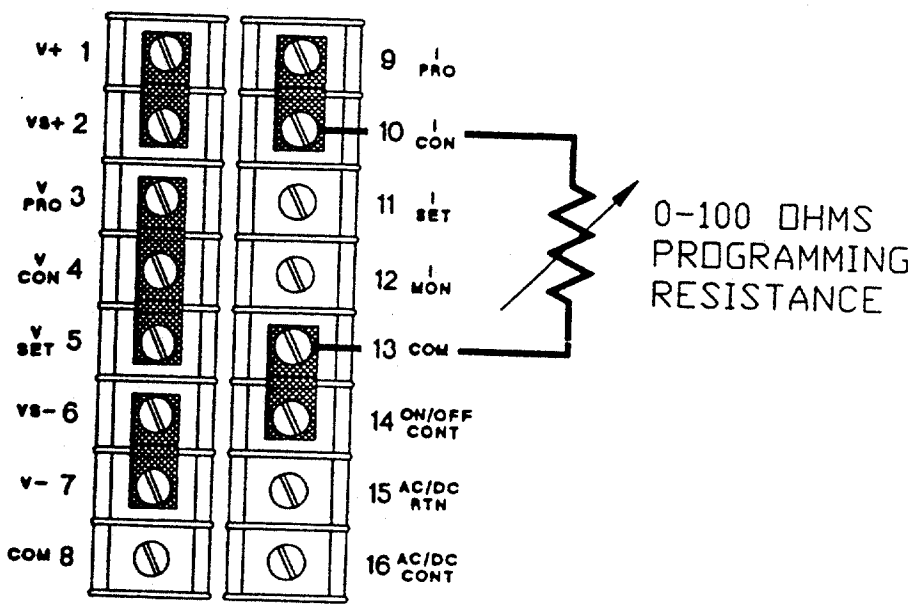

FIGURE 3-3
(1) External Current Programming Using Resistance. The resistance coefficient for remote current programming is 100 ohms/100% rated output. The programming current from the current control programming terminal TB2-9 is factory set for 1 milliamperes. This yields a coefficient of 1% of rated output current per ohm (1%/ohm). If multiple switches or relays are used to program different levels, make-before-break contacts are recommended. See Figure 3-3 for strapping requirements.